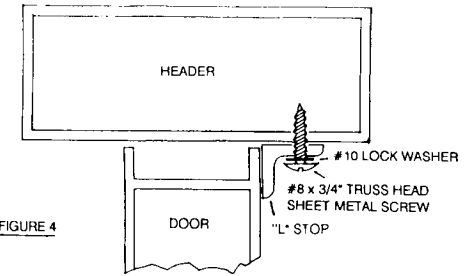

FIGURE 4
3. Place edge of "L" stop on mark and at the same time press against frame header and door. (See figure 4)